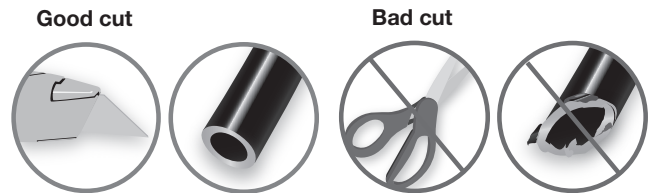

Fig. 6
2. If installing a single-path air line, choose a location for the tee fitting (L) on the wheel well or front bumper. Determine and cut adequate length of air line (D) to reach to the tee from left and right side air springs. Make clean, square cuts with a razor blade or hose cutter (Fig. 6). Do not use scissors or wire cutters.